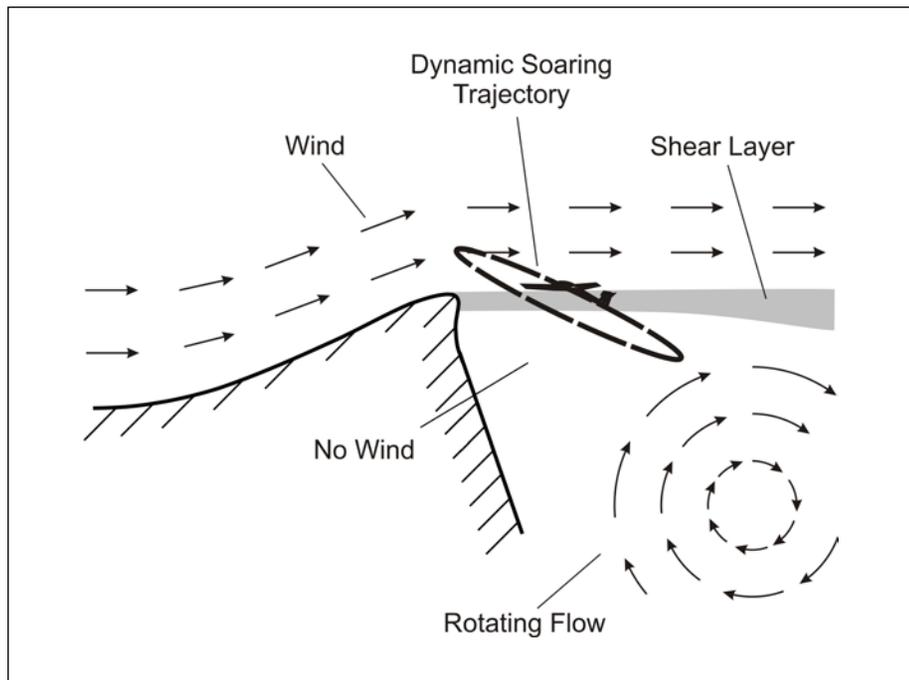

Figure 1. High-speed mode of dynamic soaring in region behind ridge.
There is a variety of shear wind types which involve different shear characteristics. The shear wind type of interest for the subject under consideration features a thin shear layer where the wind speed shows large changes within a small altitude interval. Such a wind scenario can occur in the leeward side of sharp-crested ridges where a thin layer separates the wind blowing over the ridge from a zone of still air below the layer (Richardson, 2012, Bird, J.J., Langelaan, J.W., Montella, C., Spletzer, J., and Grenstedt, J., 2014), as graphically addressed in Fig. 1.
The described shear wind scenario at ridges provides a unique opportunity for dynamic soaring as it offers the possibility of high speeds (Wurts, 1998). The mode of dynamic soaring appropriate for achieving high speeds is shown in Fig. 1. The trajectory consists of an inclined closed loop where the wind shear layer is traversed upwards in the climb phase and downwards in the descent phase. The dynamic soaring loop shows as an important aspect of the energy management (Sachs, 2005) that the upper curve is in the wind region with a high wind speed and the lower curve is in the zero wind region. By exploiting the speed difference in the air masses above and below the shear layer, radio controlled (RC) gliders can achieve extremely high speeds (Richardson, 2012, Lisenby, 2017). That manifests in ever-growing speed records to reach a value as high as 545 mph in 2018 (B2, 2018).